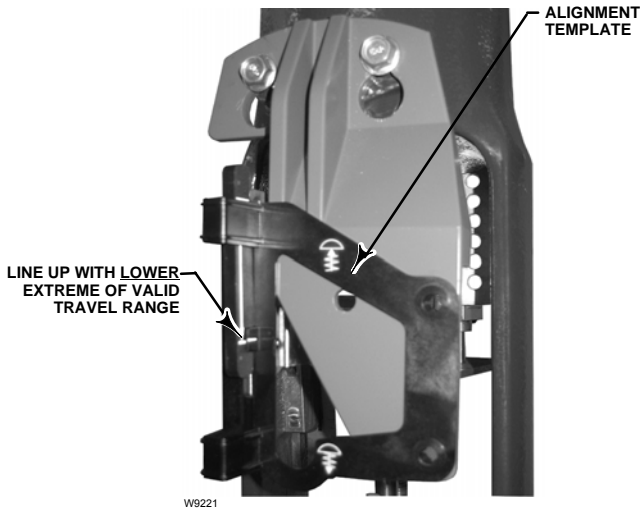

Figure 2-5. Air-to-Close Magnet Array Alignment
- **For air-to-close actuators (e.g. Fisher 657)** vertically align the magnet array so that the center line of the alignment template is lined up as close as possible with the lower extreme of the valid travel range on the feedback array. See figure 2-5. so that the center line of the alignment template is lined up as close as possible with the upper extreme of the valid travel range on the feedback array. See figure 2-5.